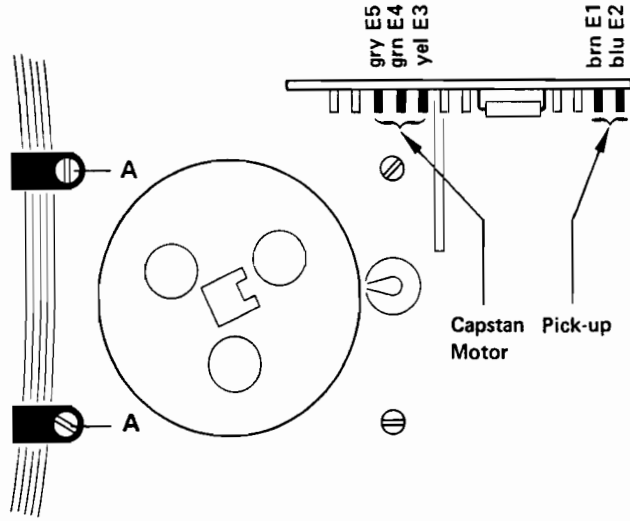

Fig. 3.7-9
- Disconnect capstan-motor and pick-up cables; connections are on control card ( fig. 3.7-9 ).
- Undo cable clamps A ( fig. 3.7-9 ).